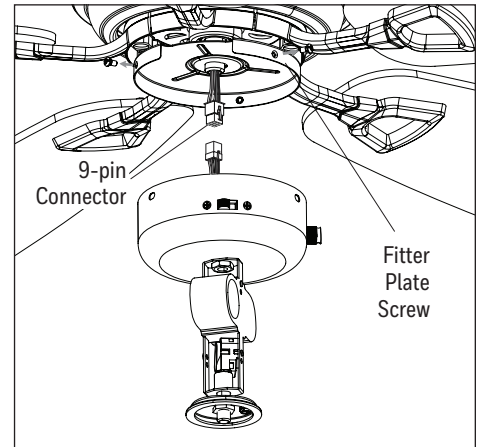

Figure 2.12
12. Remove the three fitter plate screws preassembled to the fitter plate. Then connect the 9-pin connector from the fitter plate to the 9-pin connector from the light kit (Figure 2.12).